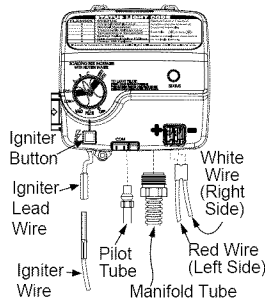
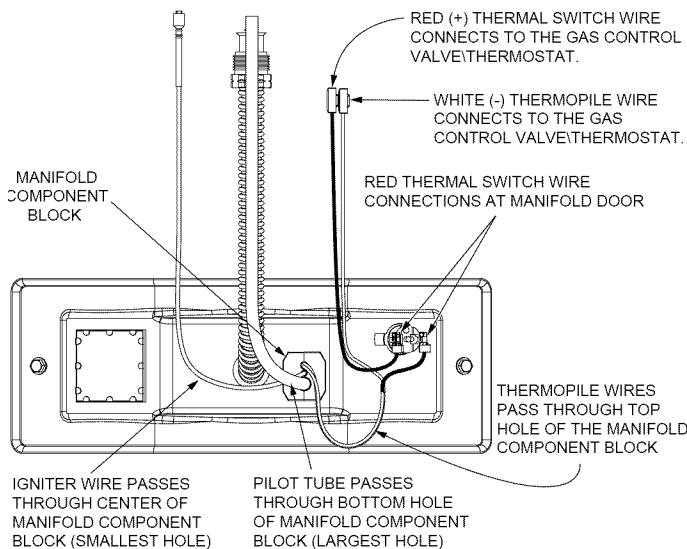

FIGURE 32.
FIGURE 37.
5. Disconnect the pilot tube (7/16" wrench), the igniter wire from the igniter lead wire, and manifold tube (3/4" wrench) at the gas control valve/thermostat. (Figure 32). **NOTE:** L.P. Gas systems use reverse (left-hand) threads on the manifold tube.
6. Disconnect the white and red wires from the gas control valve/thermostat (Figure 32). Use needle nose pliers to grip the connector(s). **IMPORTANT:** Grip the connector carefully to prevent damage. Do not grip or pull the wires themselves.
7. Connect the white and red wires to the gas control valve/thermostat as shown in Figure 32. Also, ensure that the red thermal switch wires are connected to the thermal switch on the manifold door (Figure 37).
8. Reconnect the igniter wire (Figure 32).